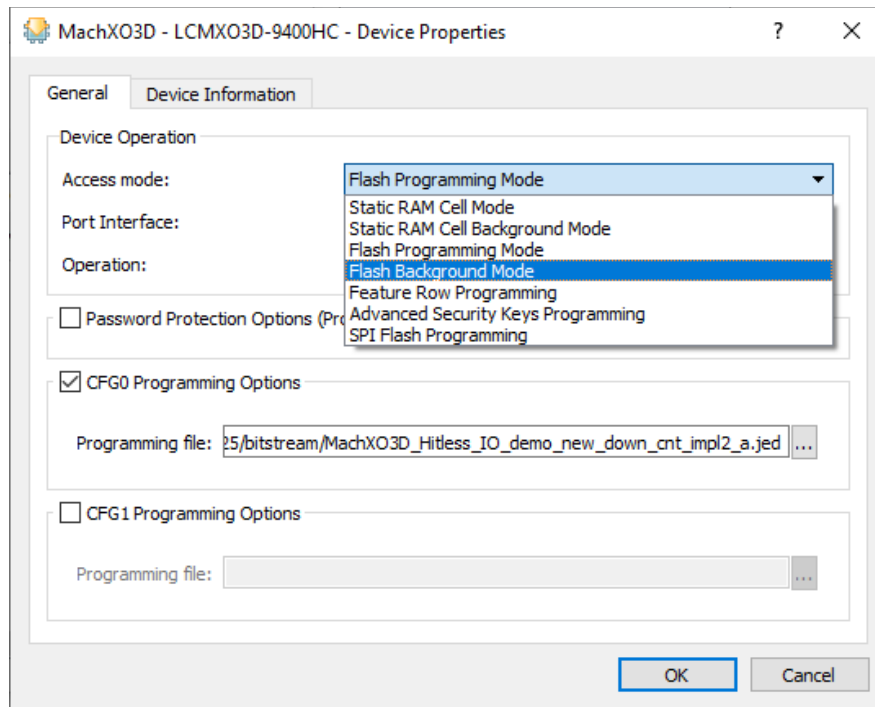
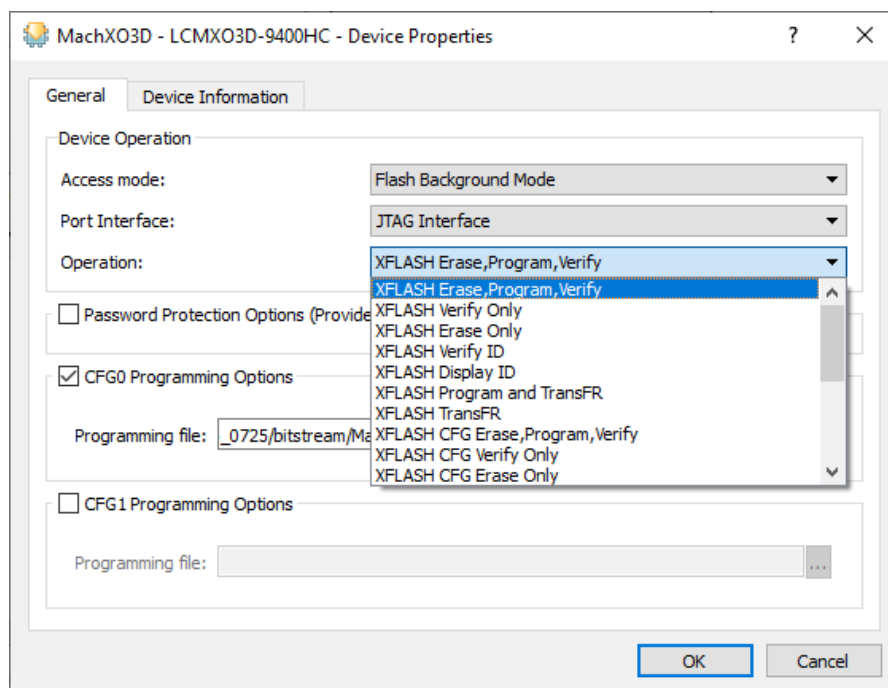
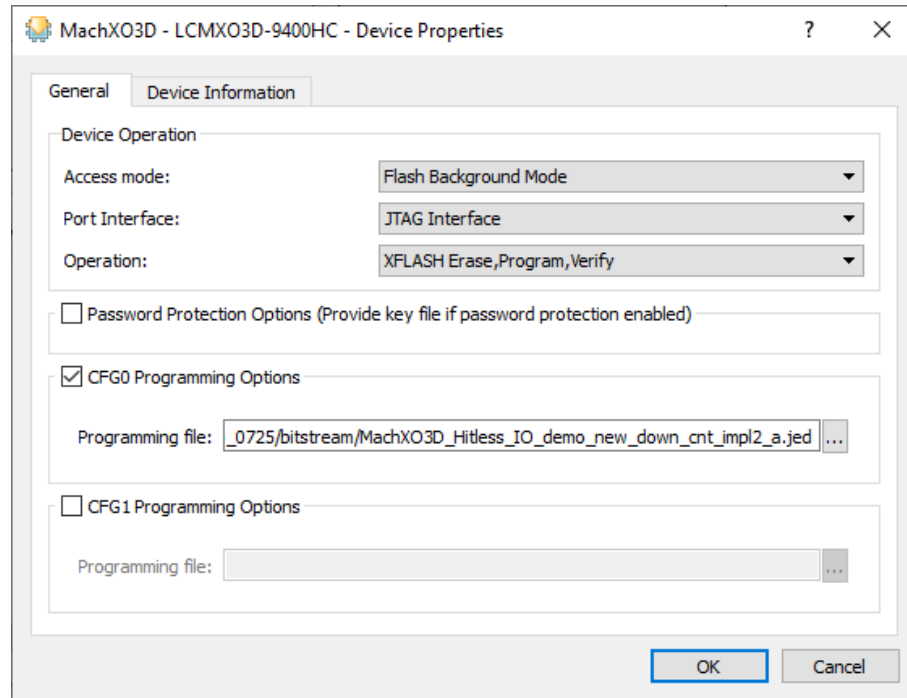

Figure 6.7. Access Mode Options
Figure 6.8. Operation Options
Figure 6.9. Browse Programming File
- In the pop-up Device Properties dialog, select **Flash Background Mode** from the **Access mode** drop-down menu (Figure 6.7).
3. Select **XFLASH Erase, Program, Verify** from the **Operation** dropdown menu (Figure 6.8).
4. Select the bitstream file `.\bitstream\MachXO3D_Hitless_IO_demo_new_down_cnt_impl2.jed` in the **Programming file** field (Figure 6.9). Click **OK**.
Updating the Flash Image	Updated Figure 6.7 , Figure 6.8 , and Figure 6.9 .